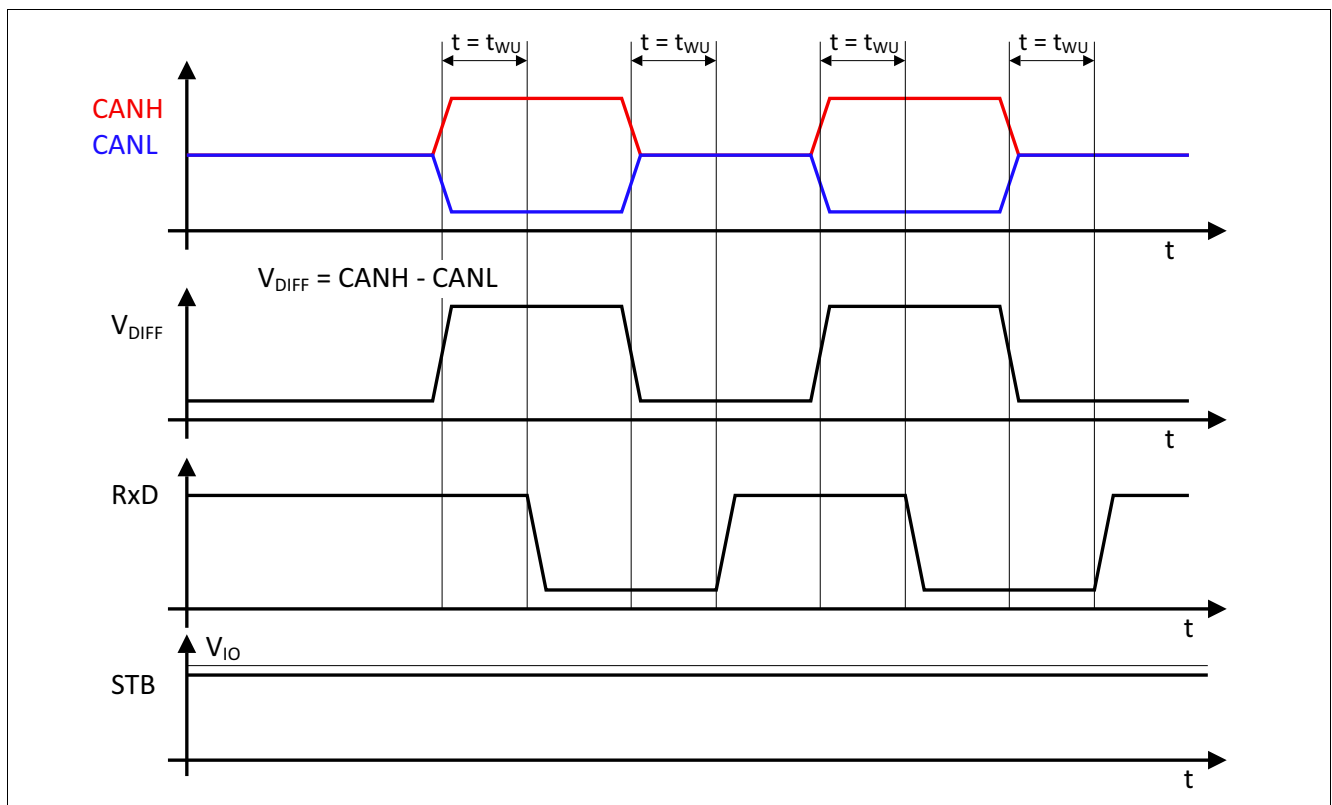

Figure 5 Wake-up pattern
- The RxD output is “high”, in case no wake-up signal on the CAN bus is detected (see Figure 5).
- The RxD output toggles according to the wake-up signal on the CAN bus (see Figure 5).
CAN bus signals, dominant or recessive, with a pulse width above the bus wake-up time $t > t_{WU}$ are indicated on the RxD output pin (see **Figure 5**).